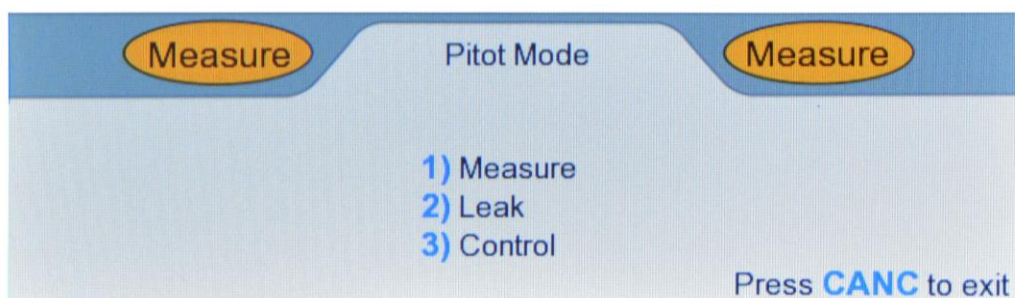

Figure 3.15 : Select Pitot Mode
The Pitot mode can be changed when the key# symbol (4) is displayed to the left of the Pitot mode field. Press key '4' on the keypad and the Lower section of the display will appear as shown in Figure 3.15 below.